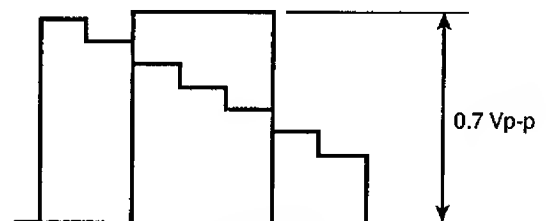

Figure 10.
4. Confirm a reading of $0.7 \text{ Vp-p} \pm .05$. See Figure 10.